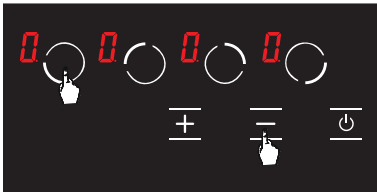

Figure 21
- Press front left hob selection key (**0**) and minus key (**-**) simultaneously. (see Fig. 21) You shall hear a short warning signal at this time. Then, remove your fingers from the stove control panel.